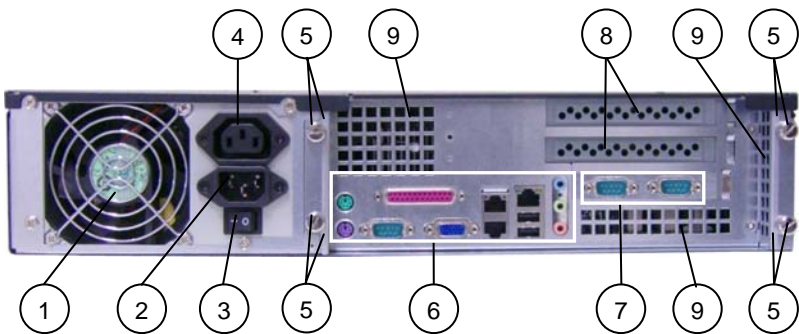
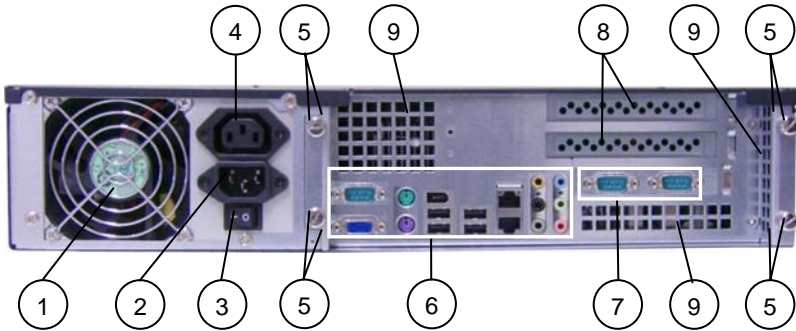

Fig. 13: Rear side of the KISS 2U with an 886LCD-M/Flex (here with a wide range power supply)
Fig. 15: Rear Side of the KISS 2U with a 986LCD-M/Flex (here with a wide range power supply unit)
The KISS 2U with 886LCD-M/Flex and 986LCD-M/Flex motherboards have two additional serial ports (RS232) on the rear side of the system (see *Fig. 13* and *Fig. 15, pos. 7*). The port is provided as a 9-pin D-SUB connector; it is RS232 configured and allows the connection of serial peripheral.